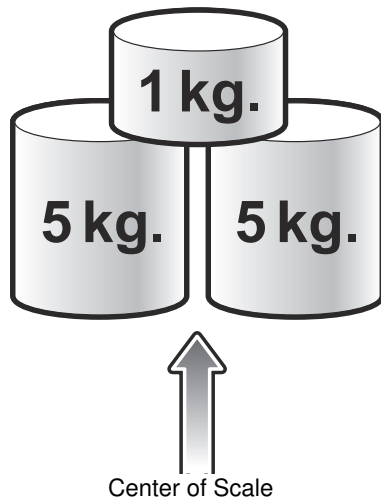

Figure 4-4 Weight Calibration Configuration for Kilograms
- b. Place 11 kg weights on the scanner as shown in Figure 4-4; two 5 kg weights centered on the center of the scale, and one 1 kg weight on top between the two 5 kg weights.